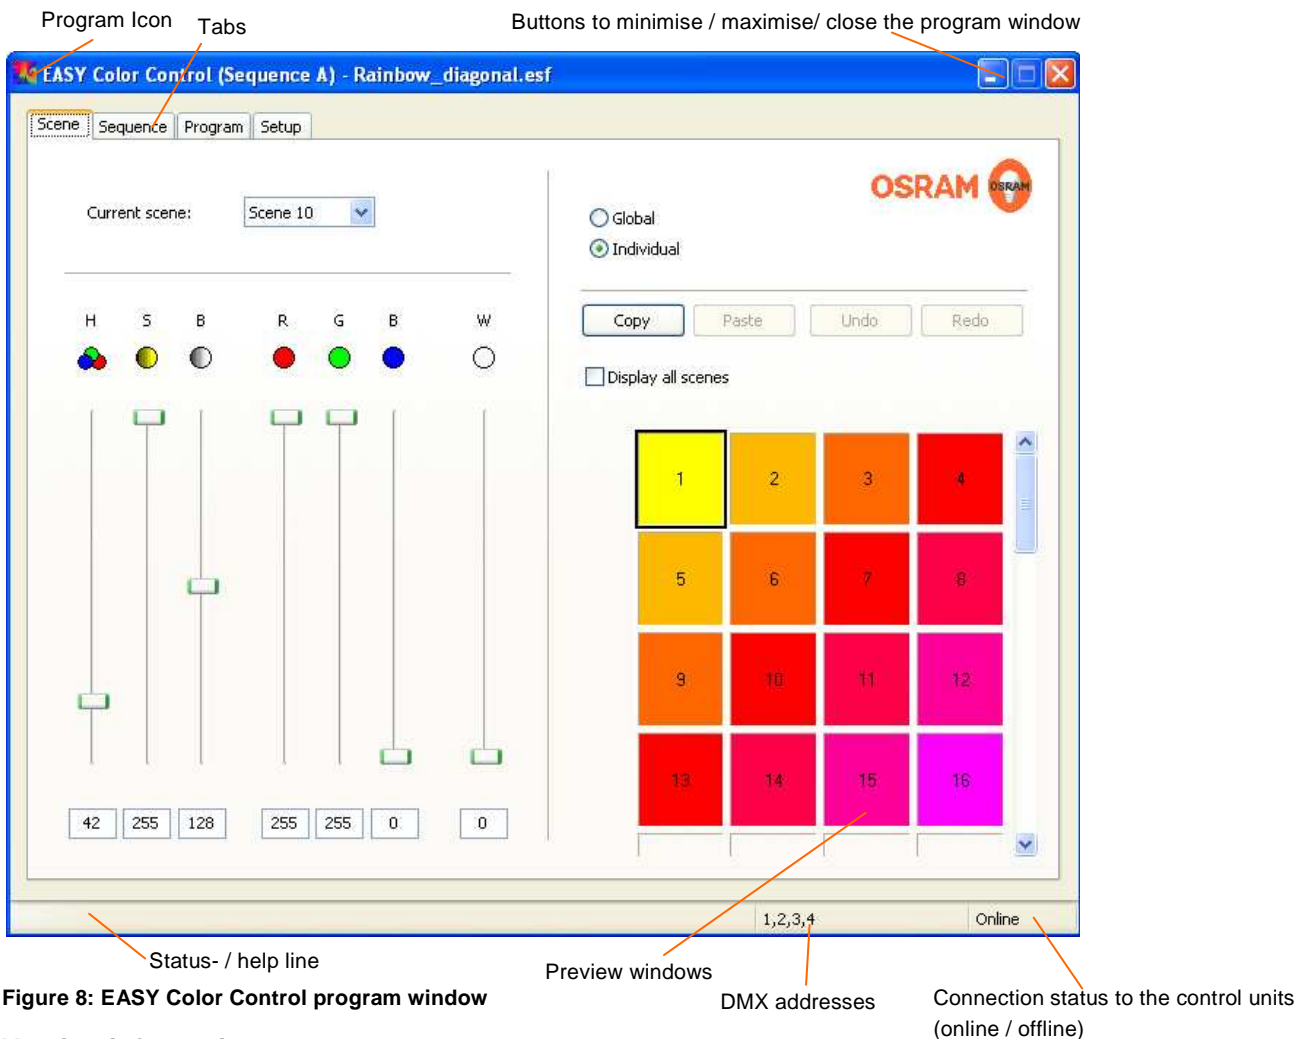

Figure 8: EASY Color Control program window
**Every unit, belonging to EASY DMX SO, shows the associated DMX addresses in the bottom of the software page** (see Figure 8). Depending on “Output configuration” settings, 2, 3 or 4 DMX addresses are associated to each units.